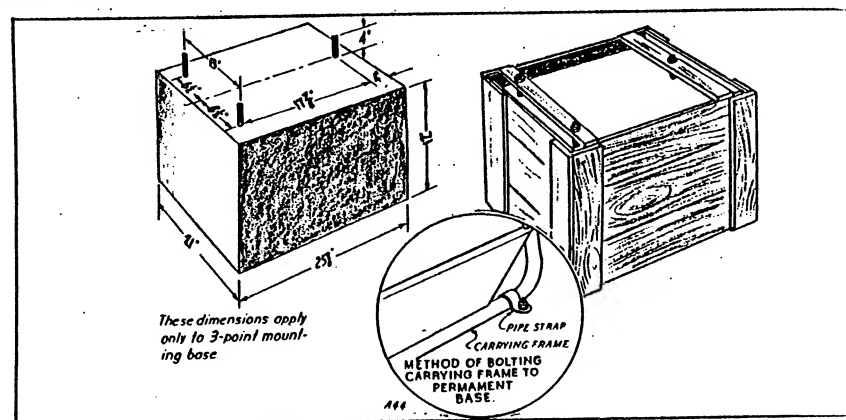

FIG. 5- MOUNTING BASE
**MOUNTING BASE.** - The plant should be mounted on a permanent base of timber or concrete. The base should be at least two inches larger on all sides than the plant base and about 12 inches high. Leave at least 24 inches between the base and the nearest wall. See Fig 5 for dimensions.